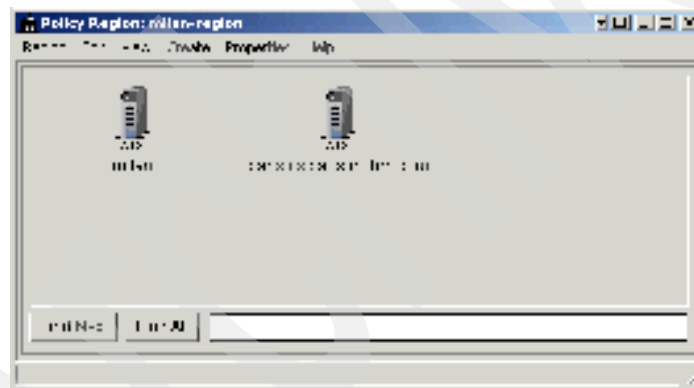

Figure 9-10 Policy Region window
5. The Policy Region window displays, as shown in Figure 9-10.